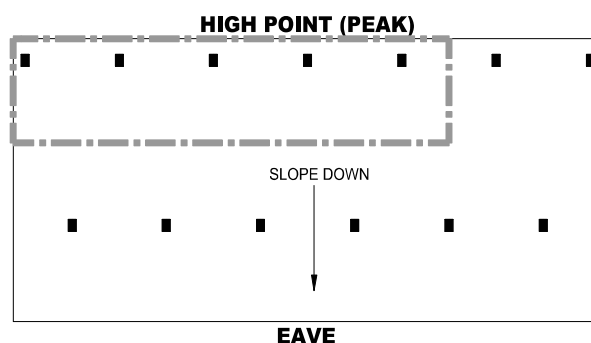

FIGURE 19C
- Calculation #2: Calculate the most hydraulically demanding 5 contiguous sprinklers along the high point. See FIGURE 19C.